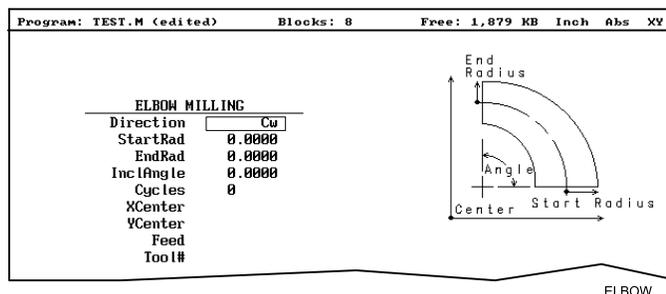

Figure 5-47, ELBOW MILLING Graphic Menu
2. Highlight **Elbow Milling**, and press **ENTER** to display the **ELBOW MILLING** Graphic Menu. Refer to **Figure 5-47**.